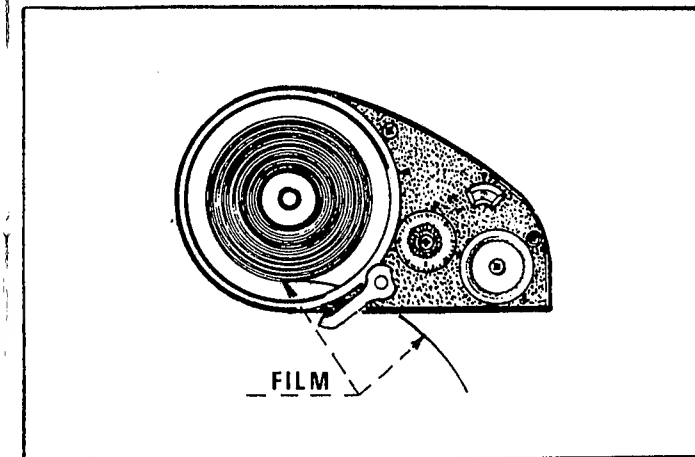

FIG. 2
1. Lift cylinder (2) from case (13).
2. Remove the fresh film roll from its packing and place its hub over the center spindle in the case, so it unrolls counter-clockwise when viewed from the top (fig. 2).
3. Pull about three inches of film through rectangular opening in the case and then replace the cylinder (2) in its original position (the interlock lever (3) will engage the notch in the cylinder rim - also arrow will indicate "TO INSERT CASSETTE").
4. Replace the cylinder knob (1) and hand tighten it.
5. Replace access door and secure it by turning the safety interlock (3) counter clockwise to its stop.